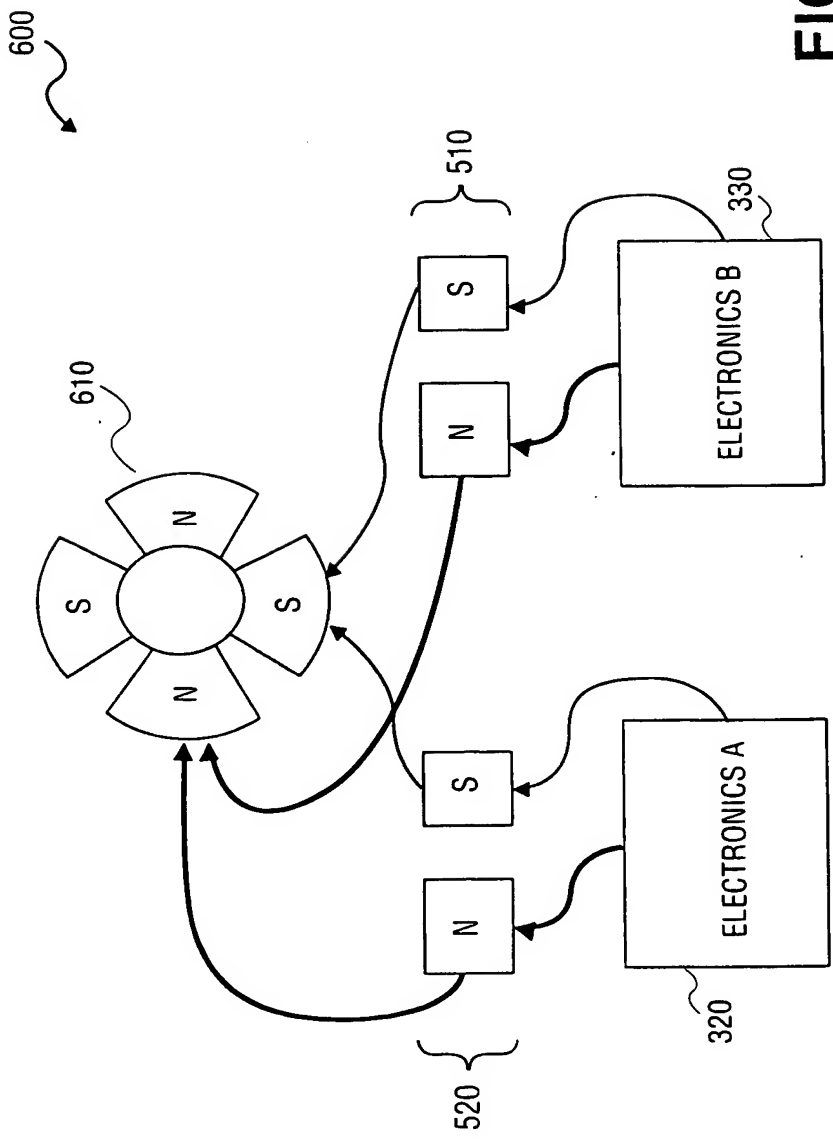

FIG. 6
FIG. 6 is a schematic diagram of a system 600. The system 600 includes a central hub 610 and two electronic devices, ELECTRONICS A 320 and ELECTRONICS B 330. The central hub 610 is a circular component with four segments, each labeled 'N' or 'S'. The segments are arranged in a circle, with 'N' segments at the top and bottom, and 'S' segments on the left and right. The system 600 also includes two sets of components, 520 and 510. Set 520 includes a North (N) component and a South (S) component. Set 510 includes a North (N) component and a South (S) component. The system 600 is configured such that the central hub 610 is connected to the North (N) components of both sets 520 and 510. The North (N) component of set 520 is connected to ELECTRONICS A 320, and the North (N) component of set 510 is connected to ELECTRONICS B 330. The South (S) components of both sets 520 and 510 are connected to the central hub 610.